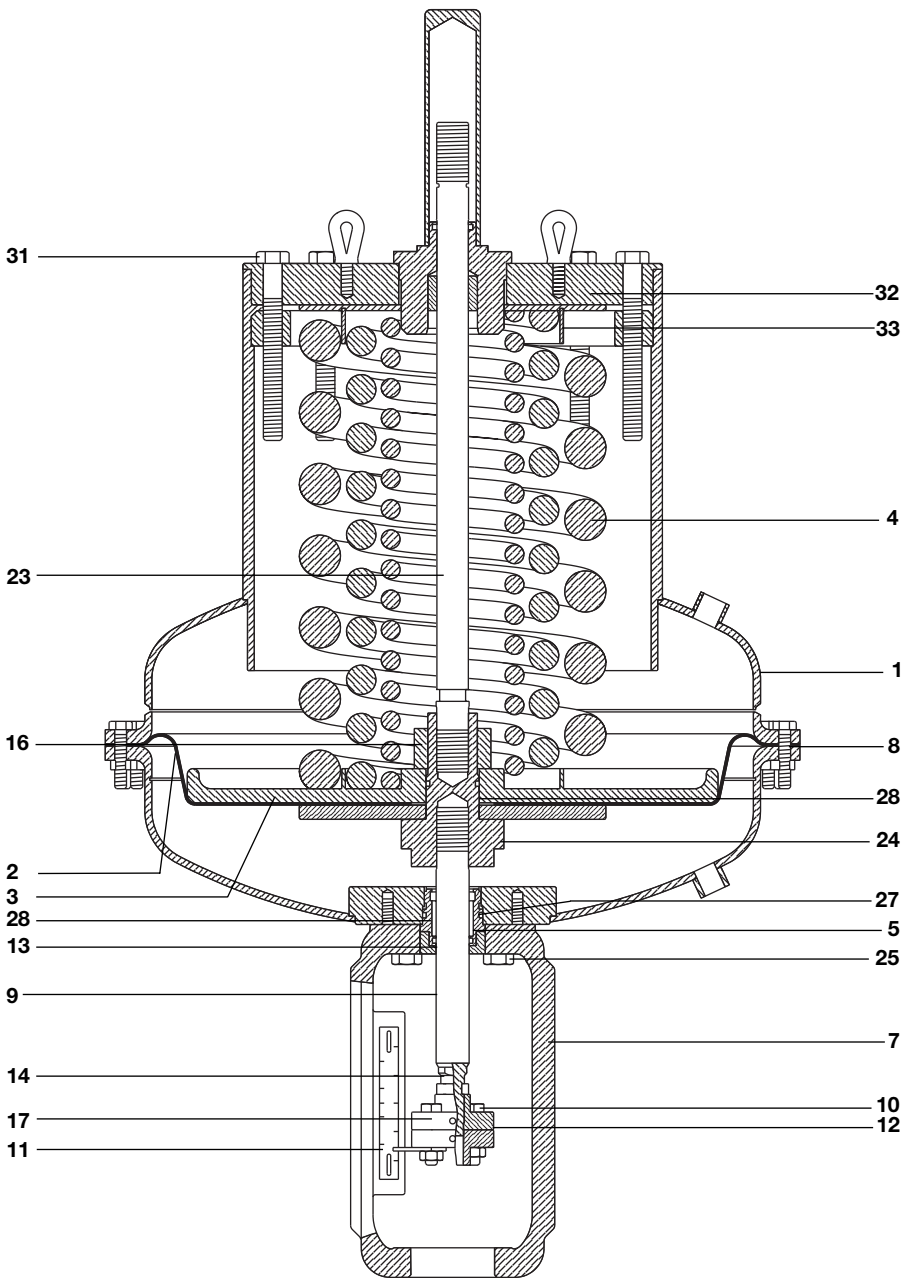

Fig. 11 PN1700 series
5.5 PN1700 series (Refer to Figure 11):